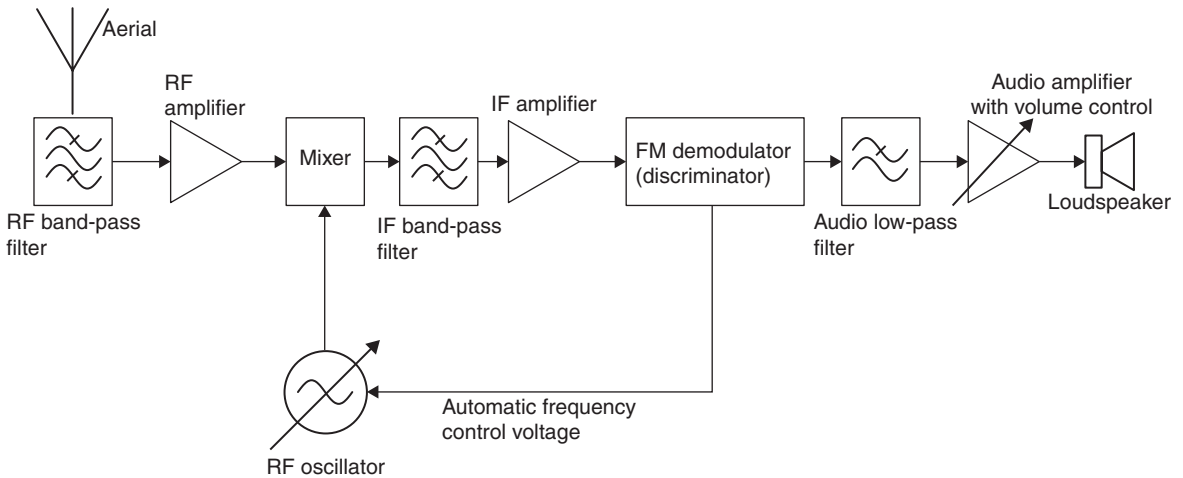

Figure 17.3 Block diagram of an FM receiver
Figure 17.3 shows a block diagram for an FM receiver whose working principles are largely similar to those of the AM receiver. The superheterodyne principle is again used, but because of the much higher wider frequency range (88–108 MHz) and the greater bandwidth (about 200 kHz), an intermediate frequency (IF) of 10.7 MHz is required. The higher IF is necessary to reduce the risk of image channel interference as well as to provide sufficient IF pass band bandwidth for the 200 kHz wide signal.